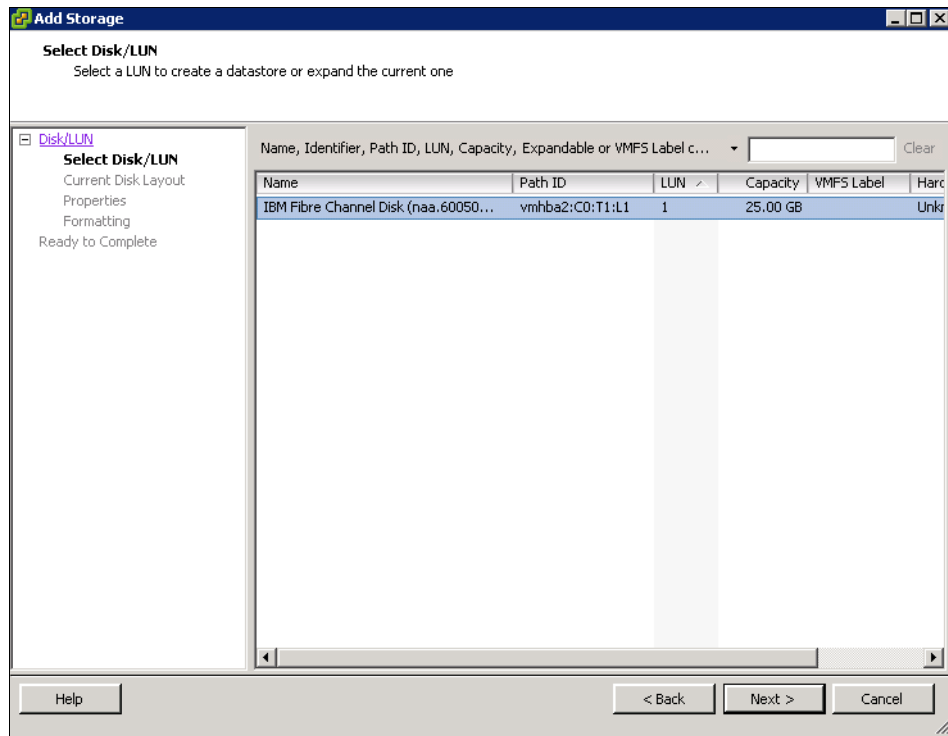

Figure 12-44 Select Disk/LUN menu
5. The Add Storage wizard opens. Click **Select Disk/LUN** and click **Next**. The IBM Flex System V7000 Storage Node disk appears (Figure 12-44). Highlight it and click **Next**.